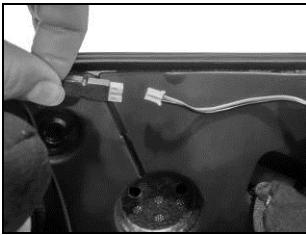

Fig. 22
- Connect the battery to the wiring system (Fig. 22).